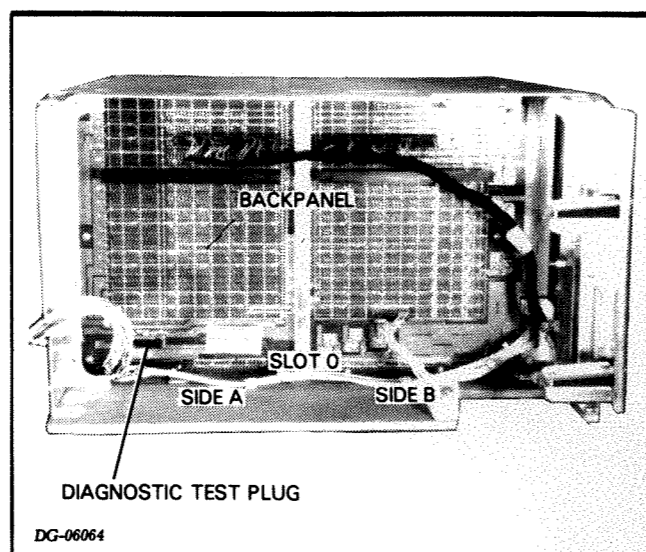

Figure 6.5 DIAGNOSTIC TEST PLUG
5. Make sure the diagnostic test plug is inserted in the correct location with the RUN label up (see Figure 6.5).
2. Check that the diagnostic test plug is in the correct location with the **RUN** label up (see Figure 6.5). If it is, continue to step 3; otherwise: